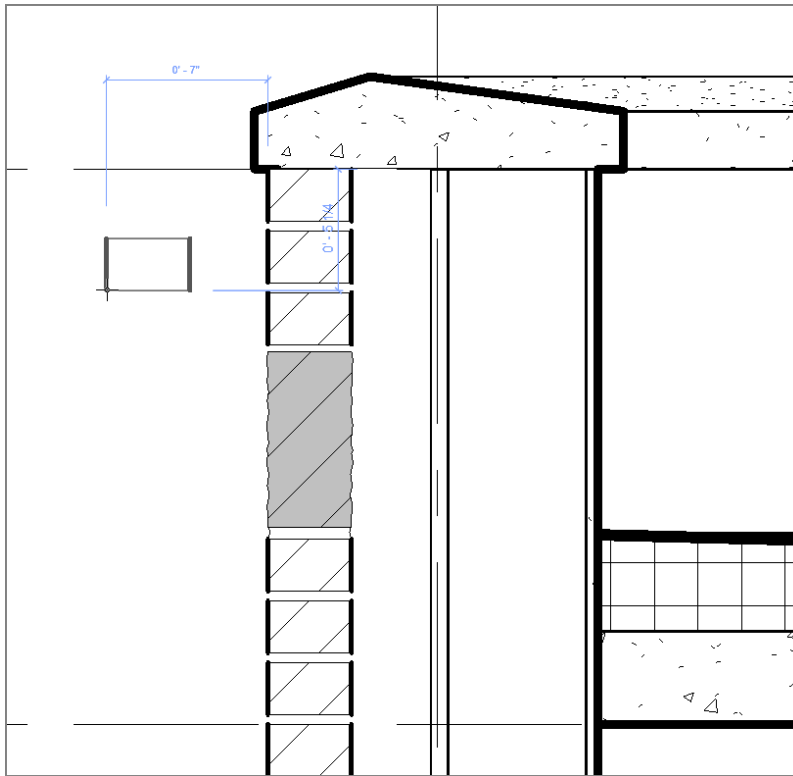

FIGURE 12.31: Place the Brick Standard : Running Section detail component off to the side. You'll delete this occurrence of the component later.
3. Place the detail component off to the side of the wall, as shown in Figure 12.31.